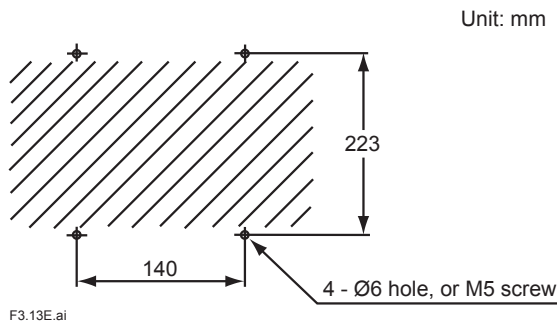

Figure 3.8 Mounting holes
(1) Make a hole in the wall as illustrated in Figure 3.8.